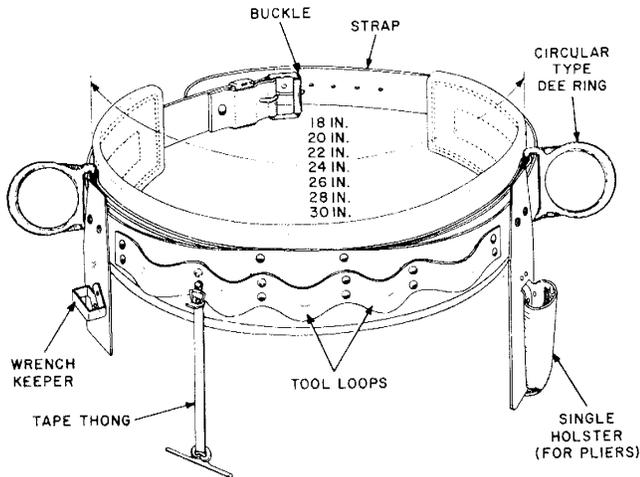

Fig. 2—Cushion Body Belt
3.05 The Cushion Body Belt (Fig. 2) is intended for the use of workmen who require a cushion-type belt. The Cushion Body Belt is made of leather and is equipped with drop-forged, circular-type D-rings and buckle, a metal wrench keeper, a tool holster, a tape thong, and leather tool loops. The 5-inch wide body section is made of a single piece of leather, folded to form a cushion with rolled edges and no exposed inside rivets. The D-ring strap is free to slide over a range of about 4 inches. The belt is always put on with the
buckle toward the wearer's left. Belts are furnished either as RIGHT or LEFT belts. A RIGHT belt is shown in Fig. 2. In a LEFT belt, the positions of the holster and wrench keeper are reversed. Belts are furnished equipped with either a single holster (for pliers) or an offset double holster with scissors pocket (for pliers, rule, and scissors). Screw-type rivets are used for fastening the holster and wrench keeper to the buckle strap, thus permitting replacement of these attachments as well as conversion of belts from RIGHT to LEFT and vice versa.